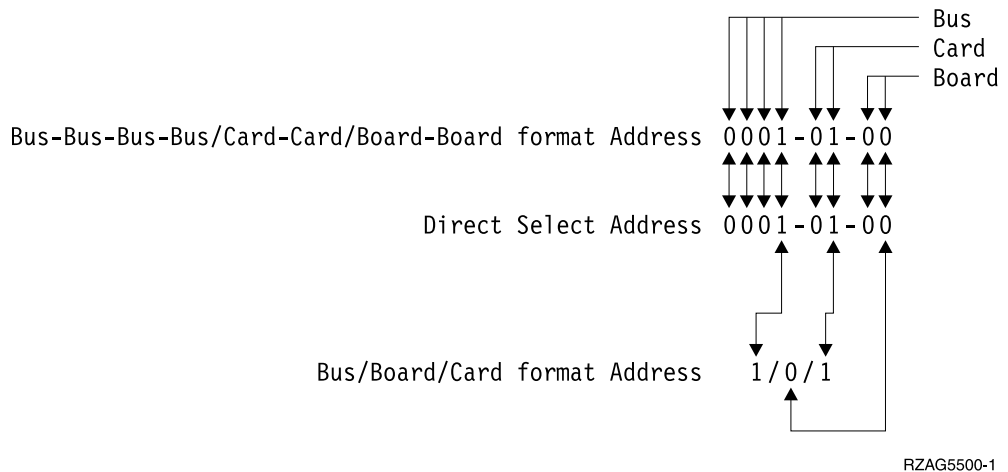

Figure 61. Format Conversion
- Use Figure 61 to understand how addresses in the Bus/Board/Card format relate to the Bus-Bus-Bus-Bus/Card-Card/Board-Board format. You can also use Figure 61 to understand how addresses in the Bus/Board/Card format relate to the direct select addresses used in "System Unit Locations and Addresses" on page 695.
x1 = System bus	The one, two or three digit decimal representation of the hexadecimal Bus value of the Bus-Bus-Bus-Bus/Card-Card/Board-Board format Address at the top of Figure 61 on page 742.
x2 = System board	The one or two digit decimal representation of the hexadecimal Board value of the Bus-Bus-Bus-Bus/Card-Card/Board-Board format Address at the top of Figure 61 on page 742.
x3 = System card	The one or two digit decimal representation of the hexadecimal Card value of the Bus-Bus-Bus-Bus/Card-Card/Board-Board format Address at the top of Figure 61 on page 742.